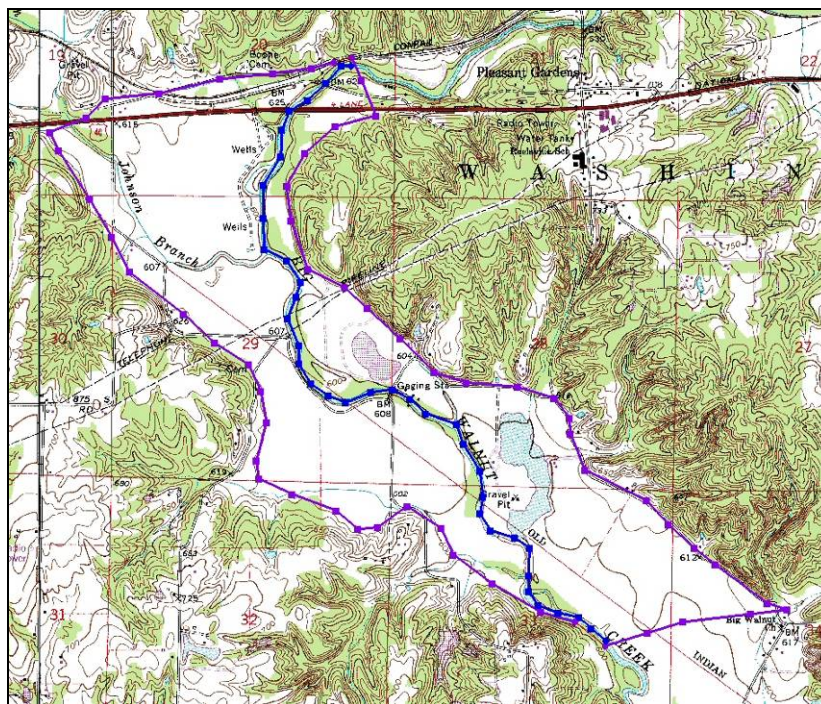

Figure 6. Modeling the River
6. Click out the river arc starting near the northern specified head boundary and ending near the southern specified head boundary, as shown in Figure 6 below. Don't extend the river beyond the boundary coverage.